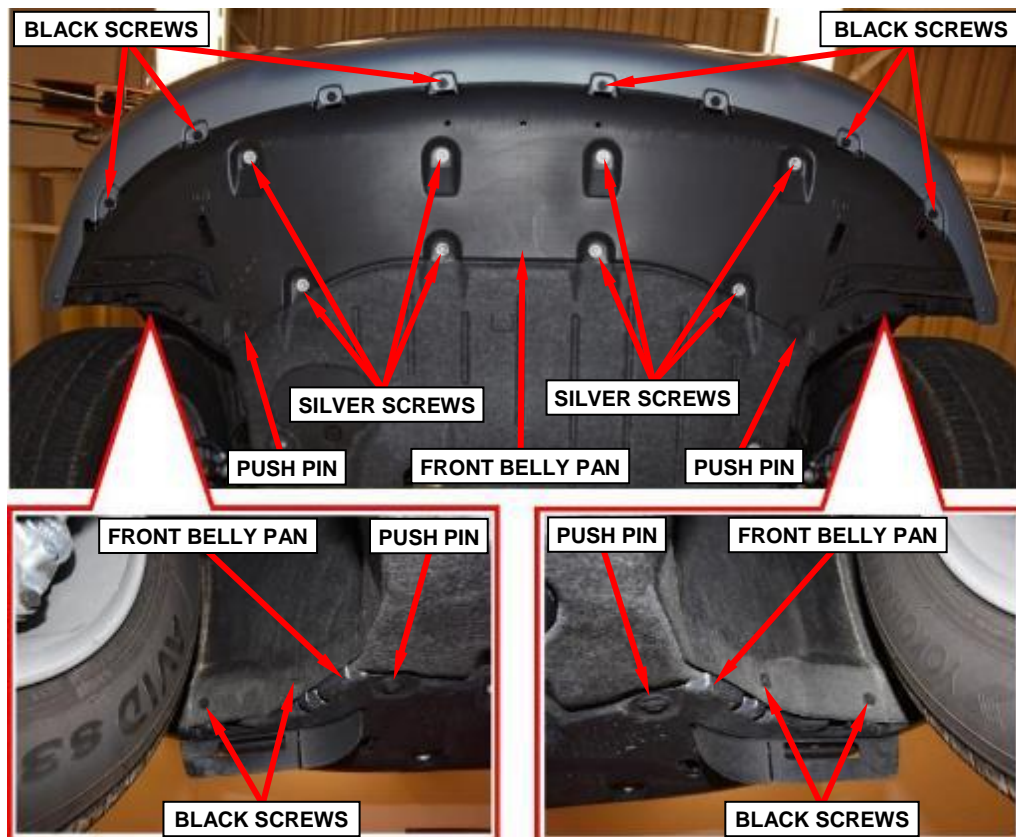

Figure 16 – Front Belly Pan
26. Remove the four black screws (two per side) attaching the wheelhouse splash shields to the front belly pan (Figure 16).
27. Remove the six black front screws (Figure 16).
28. Remove the two push-pin fasteners (Figure 16).
29. Remove the eight silver screws (Figure 16).
30. Remove the front belly pan (Figure 16).